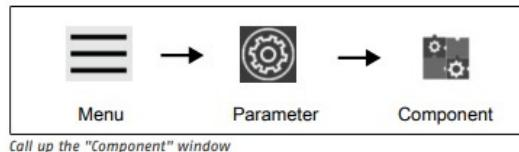

Figure 8.3: Menu - Parameter - Components
- (a) Selezionare Menu - Parameter - Components (Fig. 8.3)